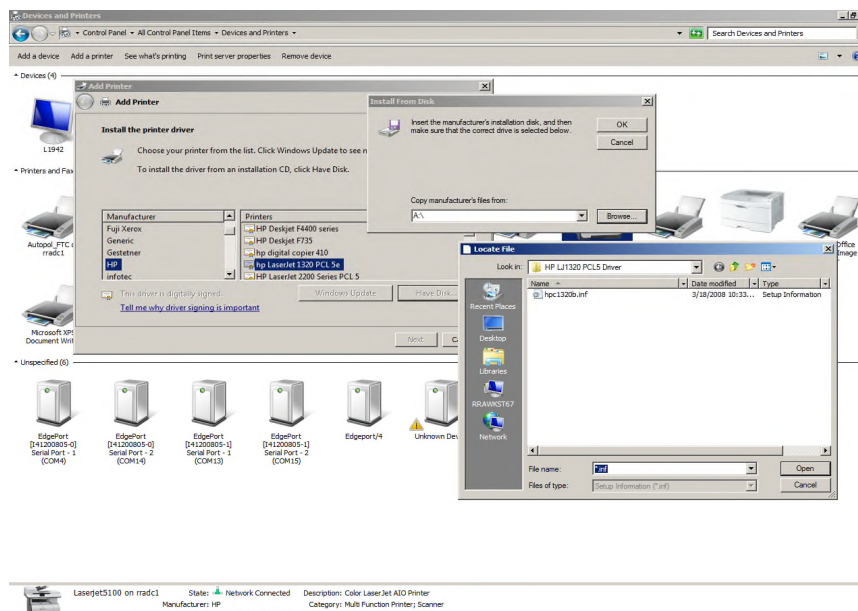

Figure 10.22 – Install custom Driver
11) Enter the name you would like to call the printer. See figure 10.22 below.